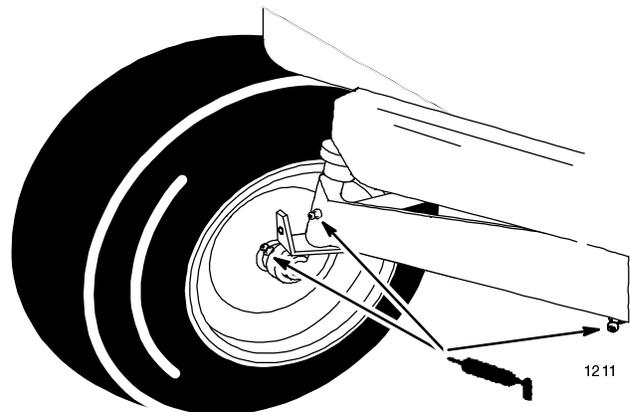

Figure 24
1. Lubricate the front wheels and spindles until grease begins to ooze out of the bearings (Fig. 24).
2. Lubricate the front axle pivot (Fig. 24).